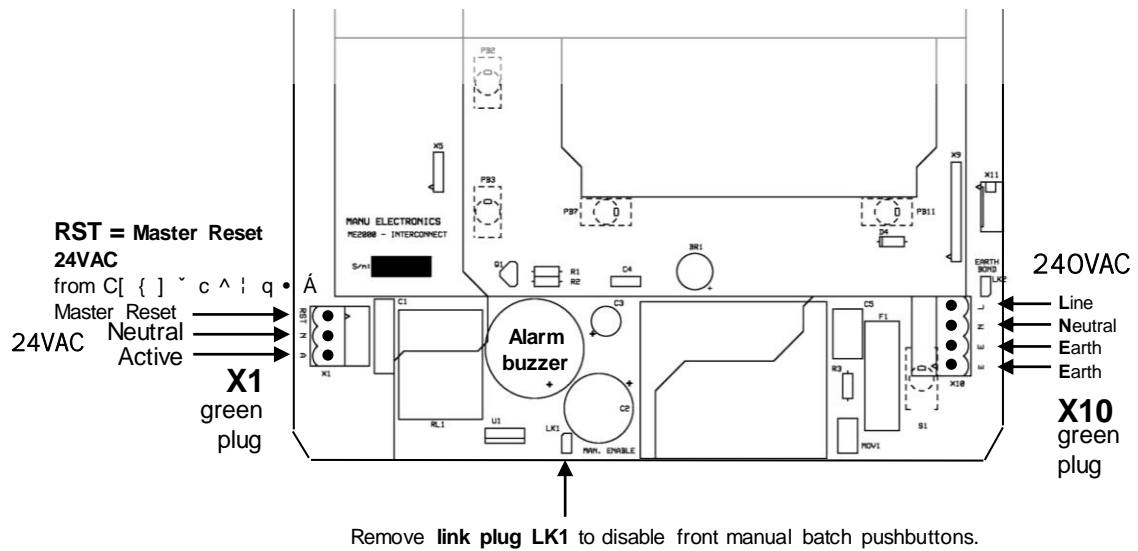

Figure 2. Motherboard Wiring Diagram
- < Figure 2. Motherboard Wiring Diagram, on page 3
1. To reduce industrial noise, connect the computer Motherboard (Figure 2, page 3) plug X10 (a 4-pin green-coloured plug),
6. **To disable the front manual batch pushbuttons**, remove link LK1 located on motherboard near the Alarm buzzer (see Figure 2 on page 3). This will deactivate manual batch function.